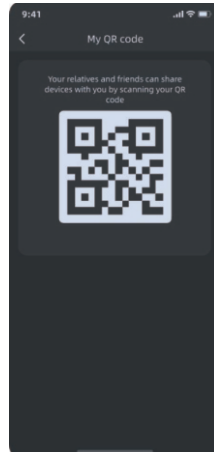

Figure 2
2)Figure 2: The other party can display the QR code of the sharing device in "**My - My QR Code**".